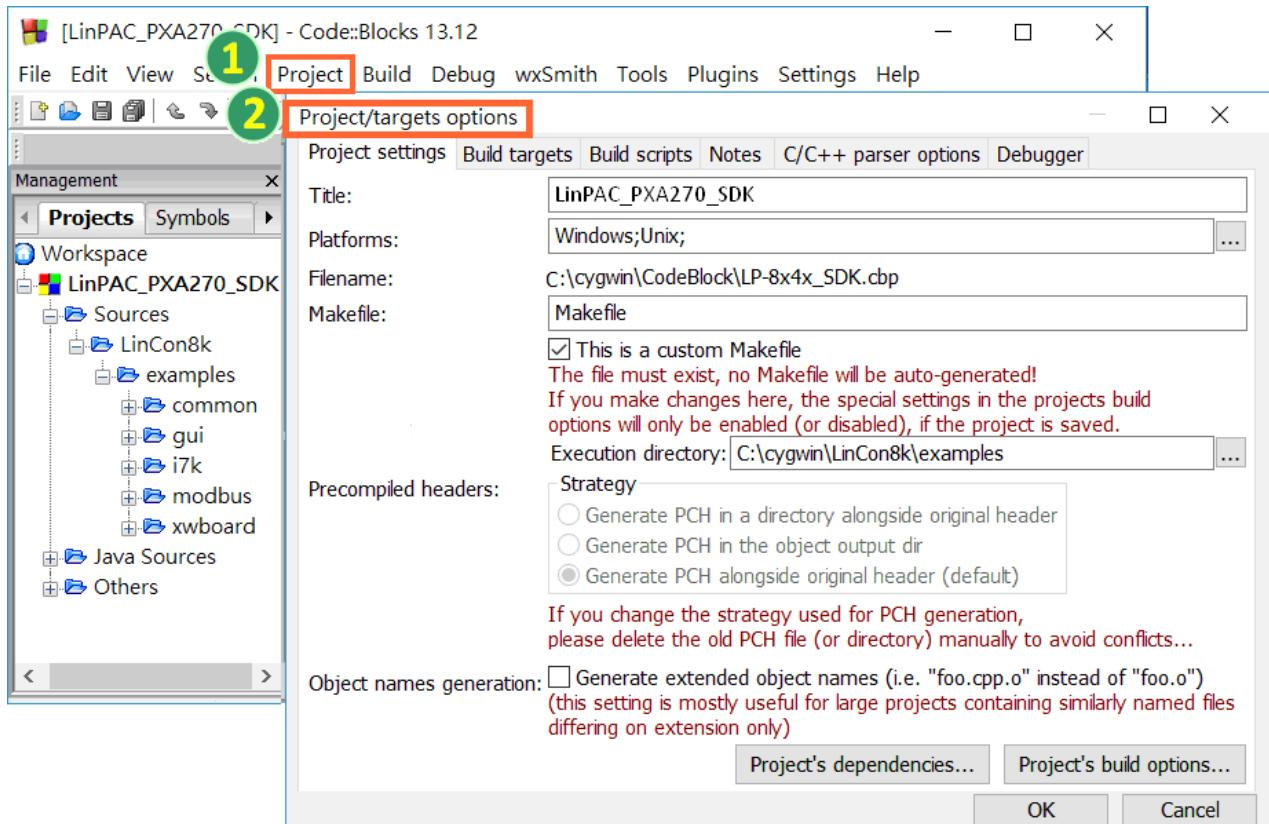

Figure 1.3.1-17. Check Makefile for Linaro GCC cross compiler
- Click **Build** options, and it will compile the LinPAC PXA270 project completely (refer to Figure 1.3.1-18).